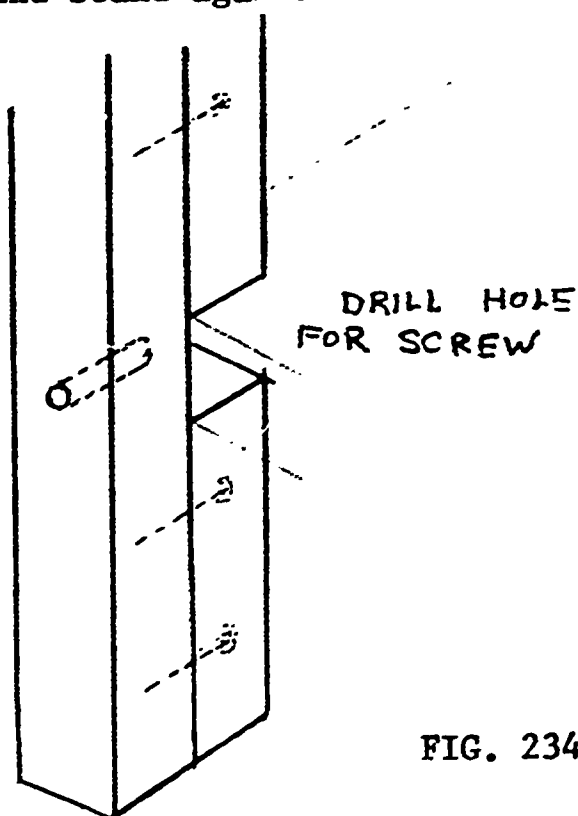

FIG. 234
- c. Start finishing nails or drill for wood screws at proper places. See figure 234.